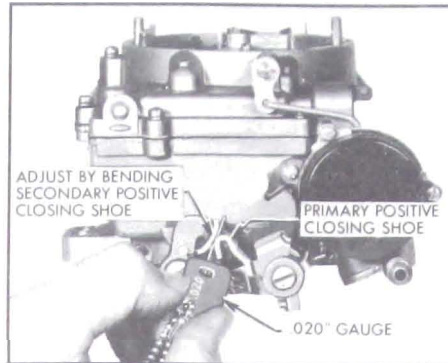

Figure 3-52—Closing Shoe Adjustment
6. Adjust Closing Shoe. Hold choke open and rotate primary throttle lever through full range. Check clearance between positive closing shoes on primary and secondary throttle levers at closest position using .020" gauge. Bend secondary closing shoe as required to obtain this clearance using pliers. See Figure 3-52.